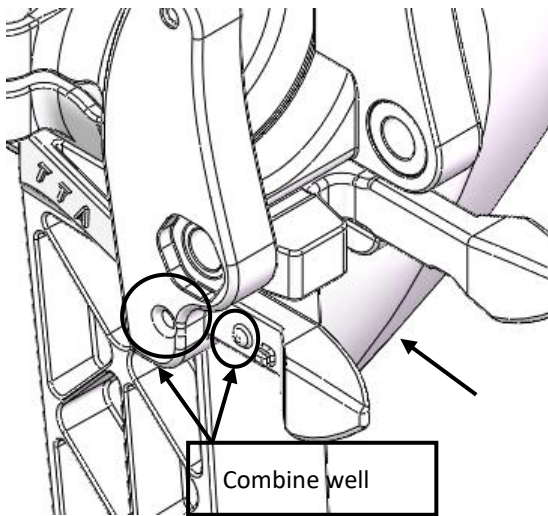

Figure 5
- 5) Slip the landing gear gently into the curve as the “Mounting Direction” arrow of Figure5.